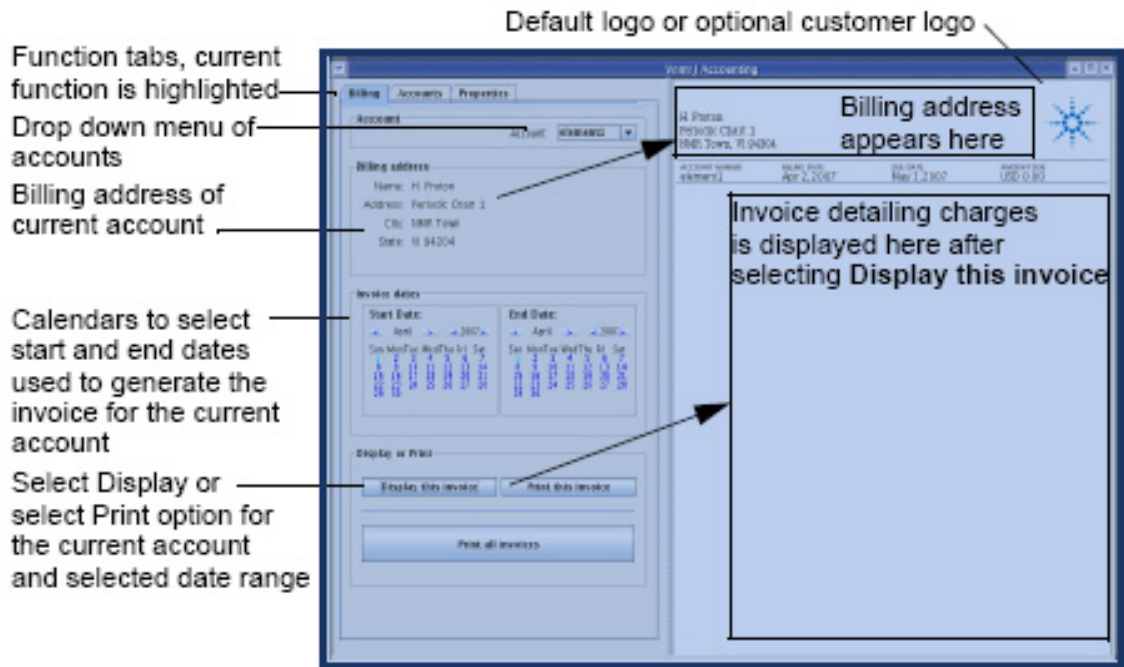

Figure 4 VnmrJ 3.2 accounting billing window
Click the **Billing** tab to open the Billing window. See Figure 4.
- a Click the **Display this invoice** button to display the invoice on the right side of the Billing tab; see Figure 4 on page 83.